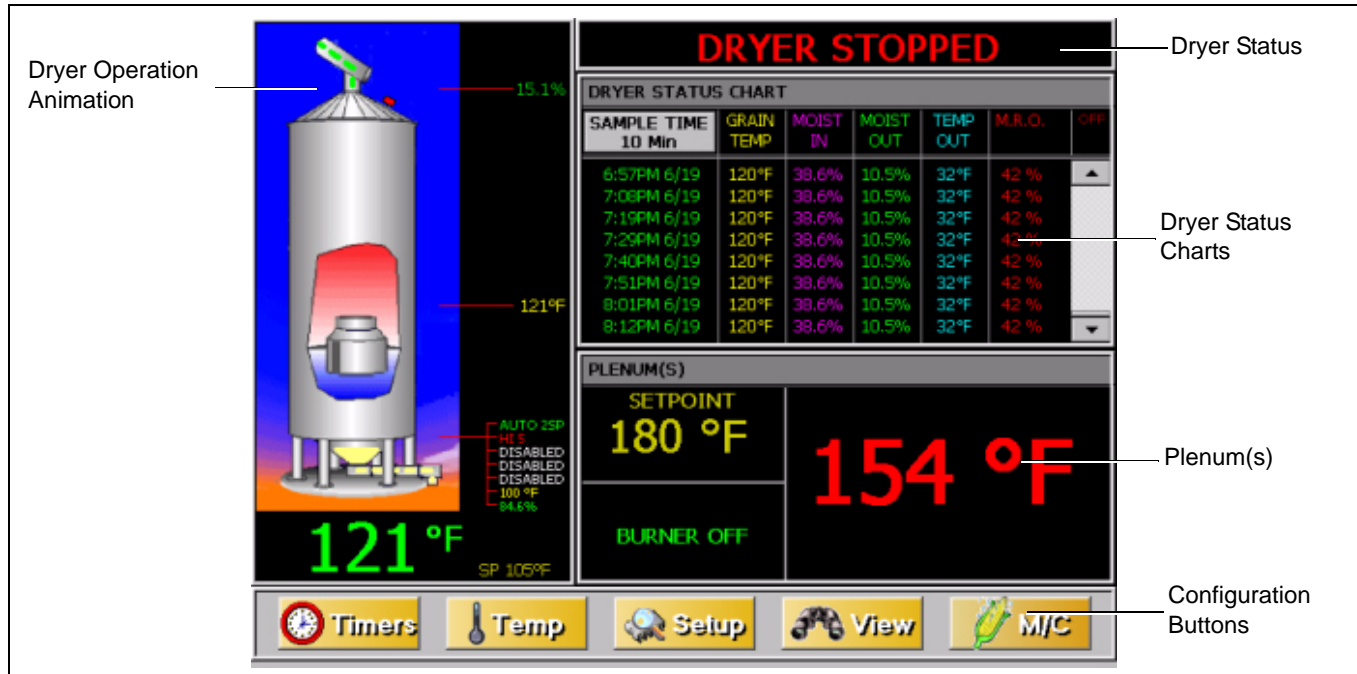

Figure 5A
The “Default Operation Screen” is divided into five (5) sections. (See Figure 5A.)